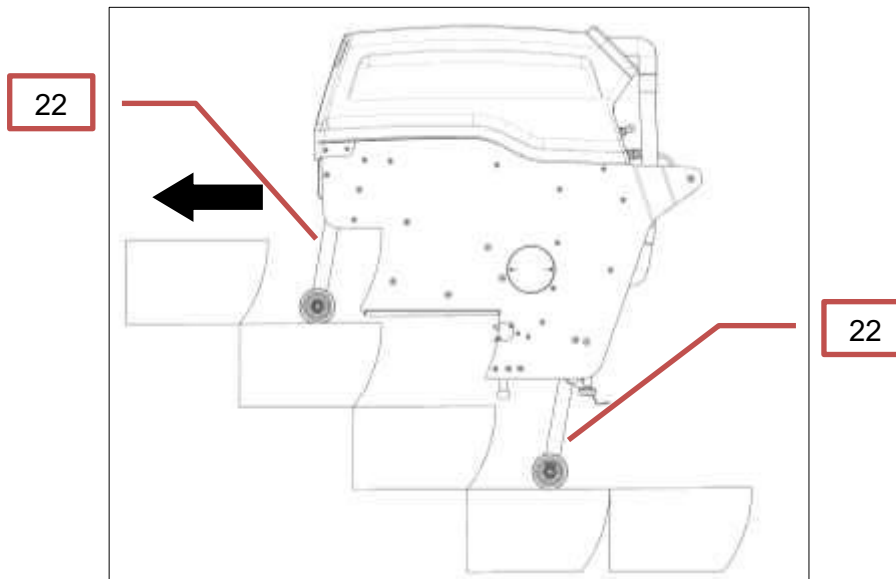
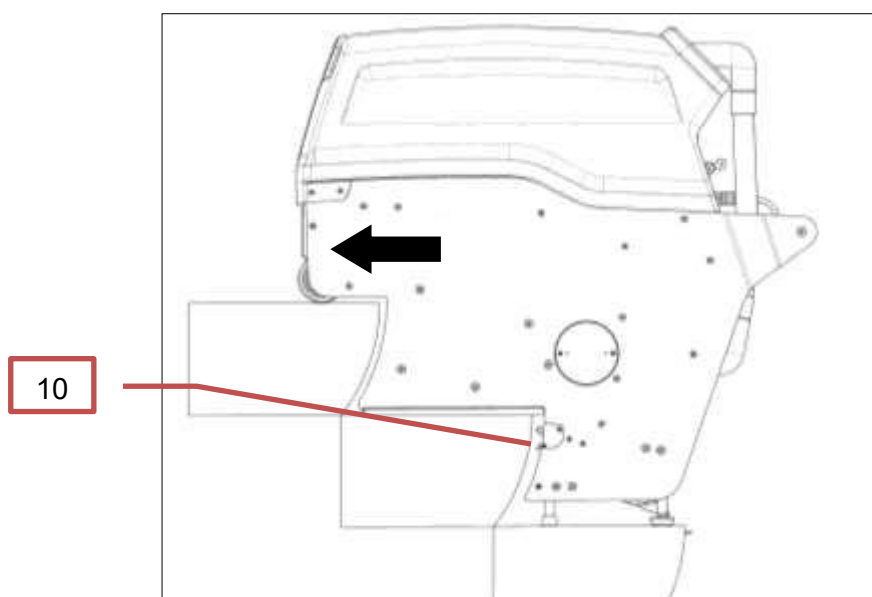

Figure 4 Fixing the machine
Figure 9 Positioning the machine
The machine with extended lifting spindles (18) should then be shoved into the escalator and moved by authorised escalator operators to the first completely extended step (Fig. 4: Fixing the machine).
In order to achieve an ideal moisture content on the brushes, the first step should be cleaned twice at the beginning of the cleaning operation. After the machine - lying on the left side of the escalator - is shoved into the escalator step until the wheels stop until the seal strip (34) is arrested (Fig. 9: Positioning the machine).
The pre-selected programme can now be started. When the cleaning cycle has been completed, the machine is raised (Fig. 9: Raising the machine).
The machine is then shoved forward again until the wheels stop on the next highest step (Fig. 4: Fixing the machine), and then lowered again. The machine can now be shoved on the glide rails into the new working position (Fig. 9: Positioning the machine).